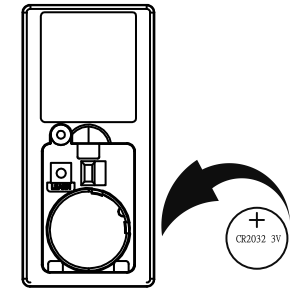

Fig. 21
**NOTE:** If replacing battery, make sure to install the new CR2032 3V battery with the + side facing up. **(Fig. 21)**